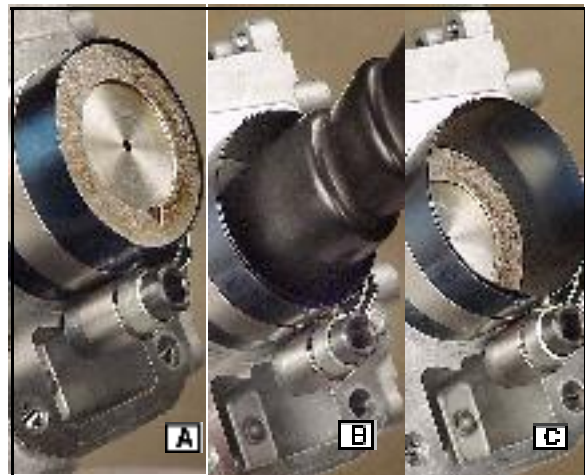

Fig. 21
8. Set piston and compressor assembly ([A] Fig. 21) on cylinder. Be careful not to scratch the surface of the bore with the connecting rod.
9. Push the piston down through the ring compressor and into the cylinder (B) until piston is in cylinder bore ([C] Fig. 21).